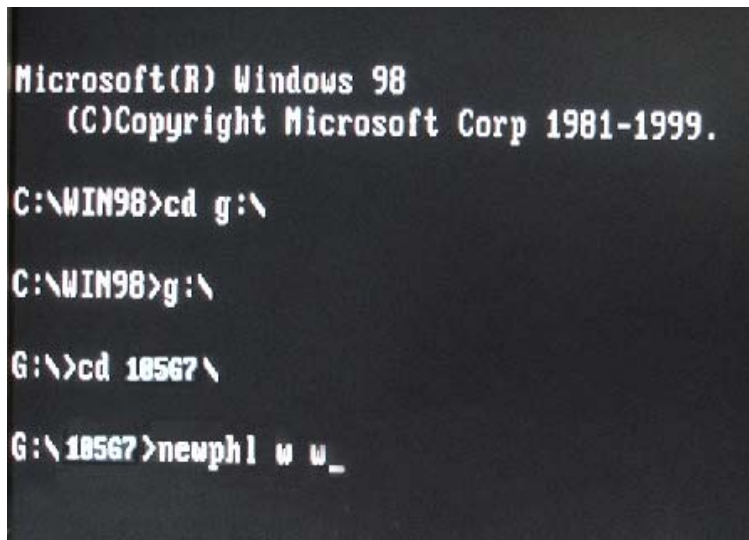

Fig 2
Step 2: Access to MS-DOS program, Input the command as shown fig 2